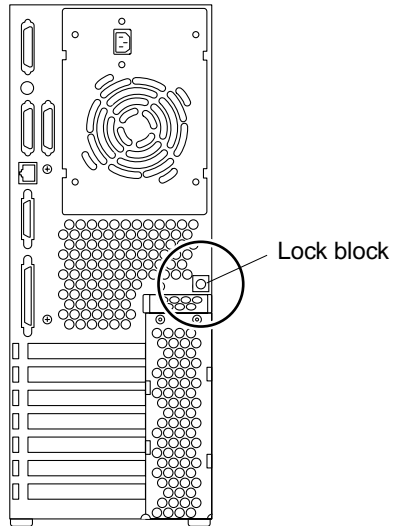

FIGURE 2-2 Opening the System
2. Disconnect the lock block (FIGURE 2-2).